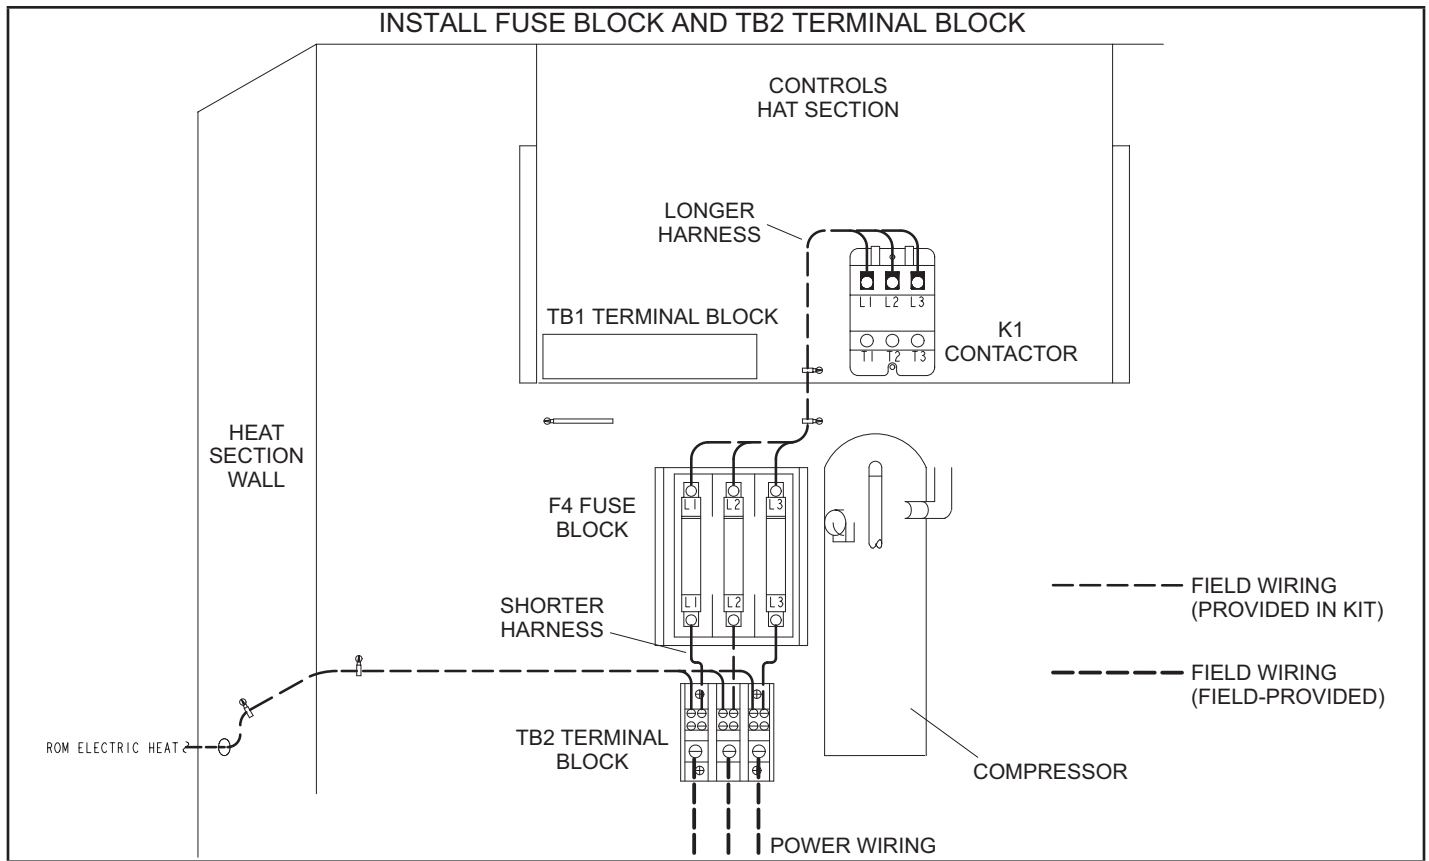

FIGURE 3
- 2 - Install fuse block and TB2 terminal block in locations shown in FIGURE 3. Secure with #8 screws provided. Retain three screws to secure fuse block enclosure.
Wiring must conform to local codes and the current NEC/CEC. Refer closely to FIGURE 3, the field wiring diagram in this kit, and the following information: If heater is being installed in an existing unit, a change in power supply wiring may be required. Remove the original supply wires or disconnect at power source. Refer to heater nameplate for minimum circuit ampacity and maximum fuse size.
- 2 - Route power wires from electric heat assembly to control area. Connect wire to load side of TB2 terminal block. Refer to FIGURE 3.